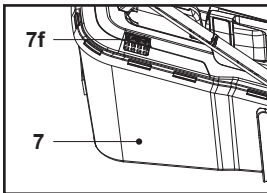

Fig. 13
1. When the hatch (7f) is opened the grass catcher (7) has sufficient volume left to collect grass (Fig. 13).